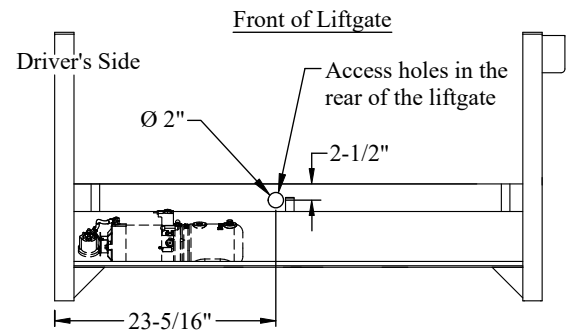

Figure 4: Spare tire access hole location in liftgate.
5. **Drill** a 2" diameter hole, in the back of the liftgate in the location shown, if needed (Figure 4).